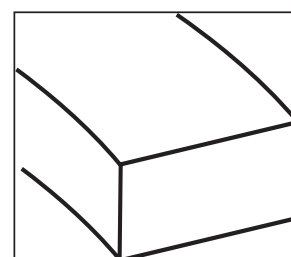

Figure 4
- 8- If ring has no dots and no bevel, it can go either way. **See Figure 4** below.